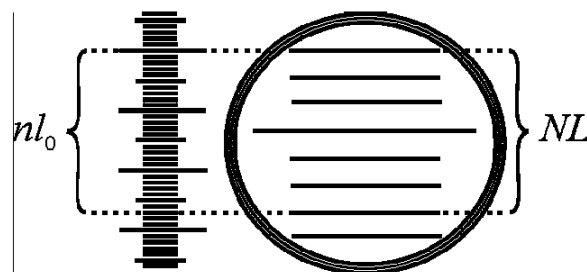

Figure 515.4. Determining the magnification of a telescope (example):
To determine the magnification of a telescope in practice, we will use the following procedure. Take a gauge with the distance  $l_0$  between the marks. Observing the gauge through the telescope with one eye and directly with the other eye, combine the images so that the image inside the telescope overlaps with the gauge visible to the naked eye (Fig. 515.4).
3. Count  $n$  marks on the gauge and the corresponding number  $N$  of marks on the image of the gauge (Fig. 515.4).